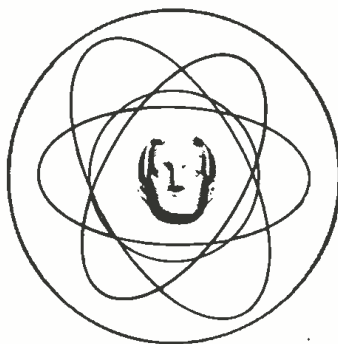

Fig. 1. We all live in an auditory world made up of concentric spheres.
**O**UR AUDITORY WORLD is an amazingly complex series of concentric spheres. The head occupies the center and seems, for the most part, to be stationary while sound emitters shift and recede and crisscross around us (Fig. 1). The problem of how to locate and track a single moving sound source, or even several simultaneous sound sources, has been met and solved by nature in a variety of ways. The insect, the bat, the porpoise, and man have each worked out special compromises—some more successful than others.